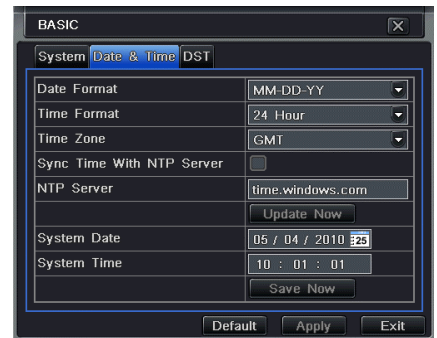

Fig 4-4 Basic Configuration-Date & Time
Step1: Enter into Menu→Setup→Basic→Date & Time tab. Refer to Fig 4-4: